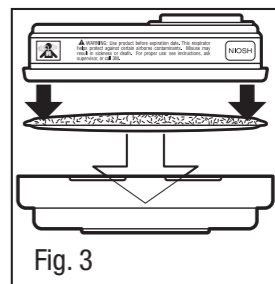

Fig. 3
- Place filter into 501 retainer so printed side of filter faces the cartridge (Fig. 3).